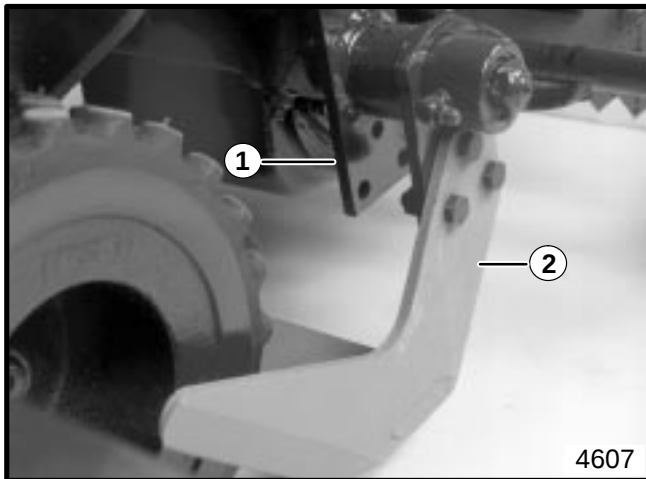

FIGURE 4
9. Attach the cutting blade to the side arms. Secure using six (6) 5/16-24 x 1" screws and flangelock nuts. See Figure 4. Torque to 25 ft.-lbs. (34 N·m).